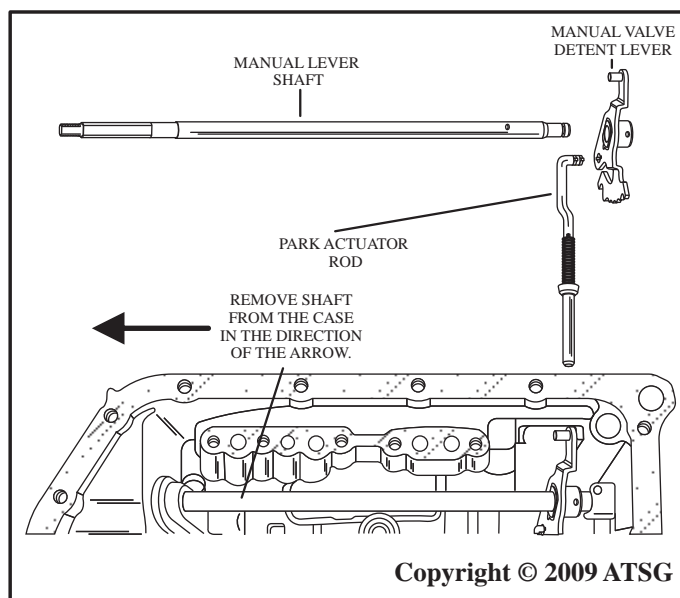

Figure 25
25. Twist and remove the manual lever shaft from the case as shown in Figure 25.
26. Remove the manual valve detent lever and the park actuator rod as shown in Figure 25.
27. Remove the park actuator rod from the manual valve detent lever as shown in Figure 25.